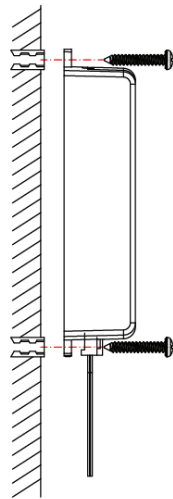

Figure 1
2. Install the product's sensing component on the wooden or glass door (thickness ≤ 40 mm) using double-coated adhesive tape. Install the product's power unit on the wall using the two supplied expansion screws, as shown in Figure 1.